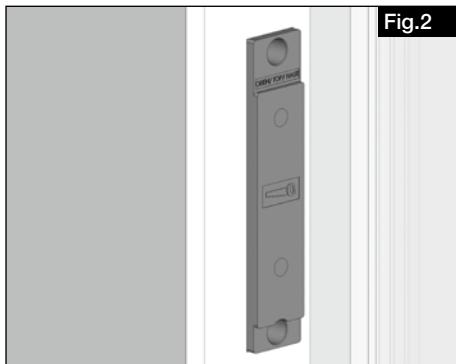

Fig.2
1. Remove the overhang of the plaster frame from the soffit element, e.g. with a multifunctional tool (see Fig. 2).